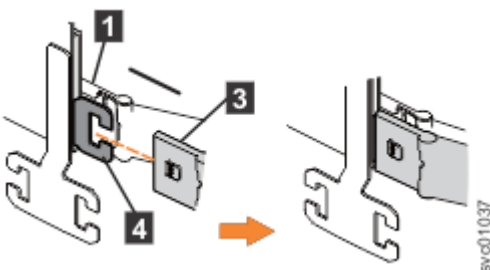

Figure 64. Install the outer connector of the upper CMA to the outer member of the support rail
3. Install the outer connector of the upper CMA assembly (3) to the outer member of the left support rail (4), as shown in Figure 64 on page 59.